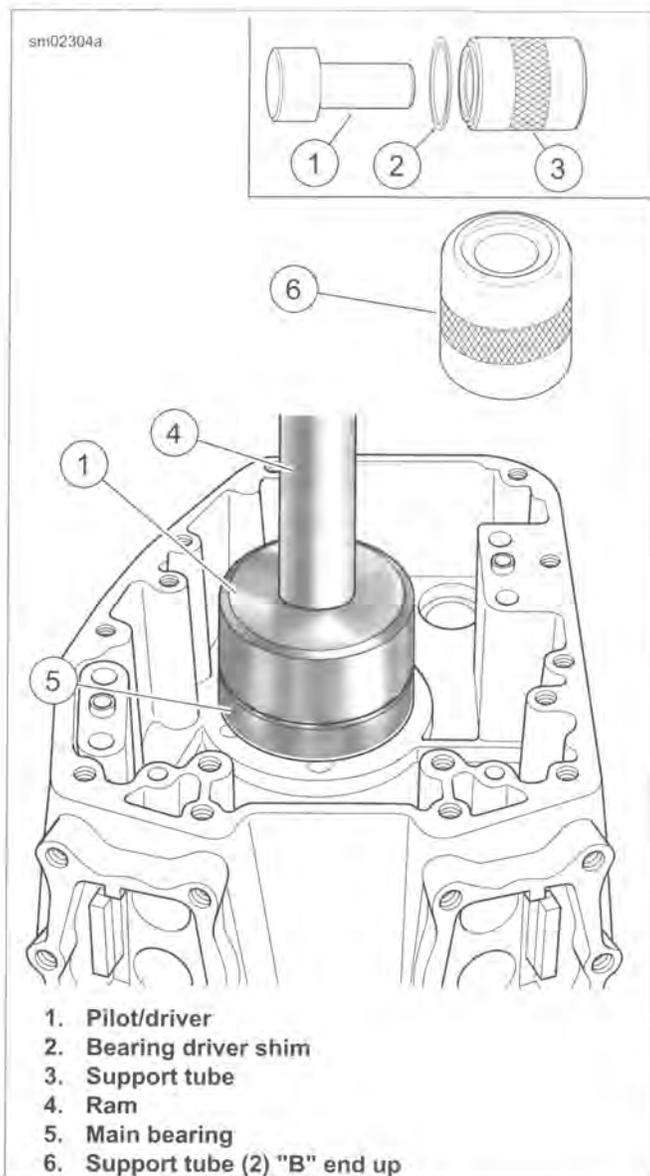

Figure 3-122. Right Main Bearing Installation
- See Figure 3-122. Obtain CRANKCASE BEARING REMOVER/INSTALLER (Part No. B-45655), CRANKSHAFT BEARING DRIVER SHIM (Part No. HD-42720-4) and REMOVER/INSTALLER SUPPORT TUBE (Part No. HD-42720-5).
- Spread a thin film of clean engine oil on OD of **new** bearing (5).
- Place support tube (3) on press table with the "B" end is up. The ends of the support tube are stamped "A" and "B" to verify proper orientation.
- Place CRANKSHAFT BEARING DRIVER SHIM (Part No. HD-42720-4) (2) on support tube (3).
- Slide remover/installer (1) through bearing into support tube.
- Center remover/installer under ram (4) of press. Apply pressure until resistance is felt and bearing is bottomed on the support tube.